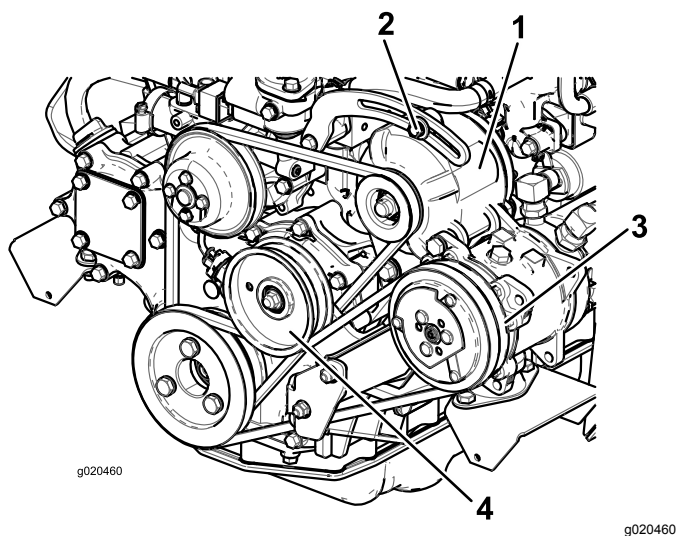

Figure 101
If the deflection is not 10 mm (3/8 inch), loosen the alternator-mounting bolts (Figure 101).
Check the condition and tension of the belt (Figure 101) after every 100 operating hours.
2. If the deflection is not 10 mm (3/8 inch), loosen the idler pulley mounting bolt (Figure 101). Increase or decrease the compressor belt tension and tighten the bolt. Check the deflection of the belt again to ensure that the tension is correct.